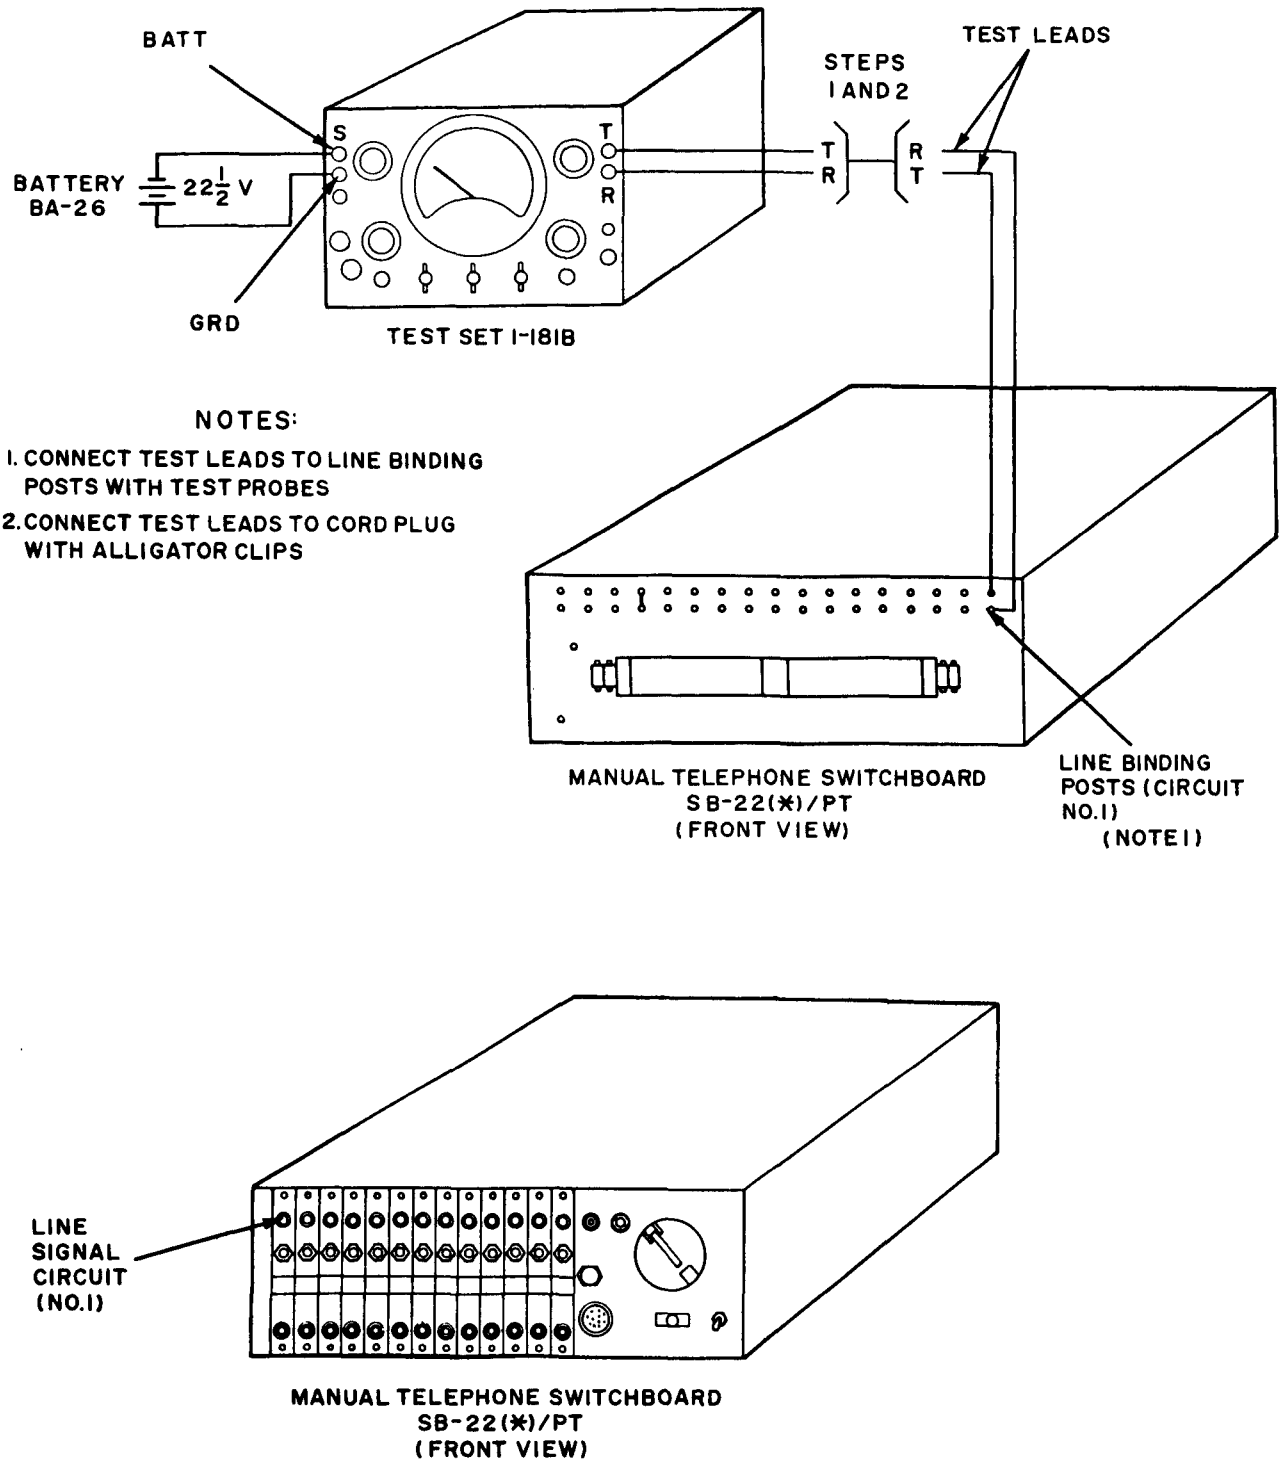

Figure 3-2. Line and Trunk Signal Efficiency Test Setup.
- (1) Remove the front cover and open the rear cover.
- (2) Install Batteries BA-30 in the switchboard.
- (3) Connect the I-181-(\* ) to the switchboard as shown in figure 3-2.